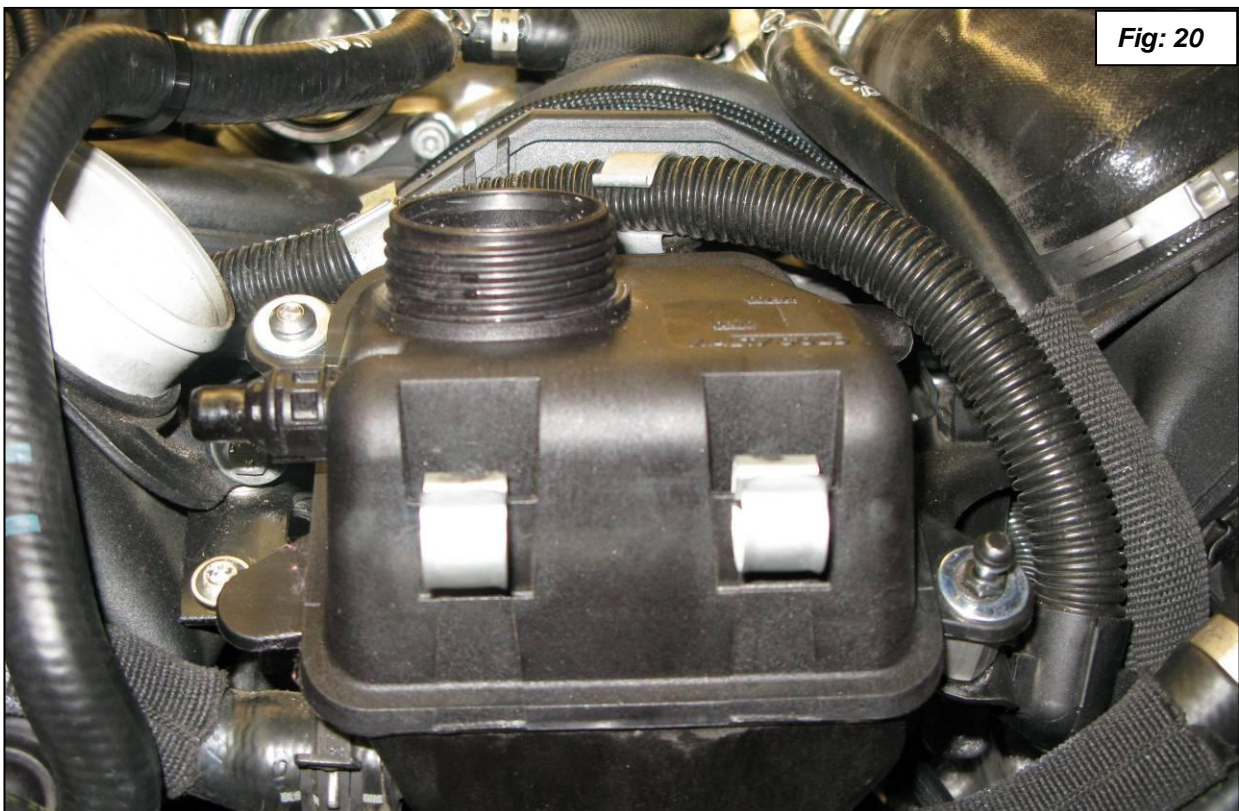

Fig: 20
17. Install the expansion tank as shown in figure 20. Use the supplied 6mm button head bolt and washers on the passenger side and the ball stud, serrated washer and flat washer on the driver's side.